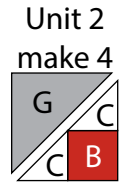

Fig. 2
2. Repeat Step 1 and refer to Figure 2 for fabric identification, placement and orientation to make (4) Unit 2 squares.